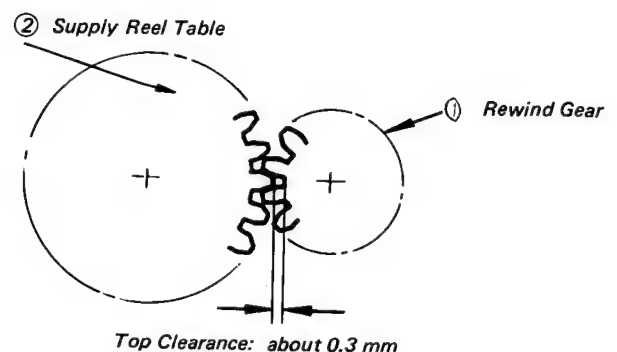

Fig. 5-51 Rewind Gear Engagement Adjustment
### 14-1. Checking (Fig. 5-51)
5. Check to insure that the top clearance of the gears is 0.3 mm (see Fig. 5-51).
#### 14-2. Adjusting the Rewind Gear Engagement (Fig. 5-51, 5-52).
2. Loosen the two screws ④ holding the rewind solenoid ③.
3. Slide the rewind solenoid ③ in the direction A (←).
4. Set the VCR in the rewinding mode of operation to energize the rewind solenoid ③.
5. Move the rewind solenoid ③ by pressing a bladed screwdriver to the rectangular hole on the reel chassis until the gear top clearance is 0.3 mm (see Fig. 5-51).
6. Tighten the screws ④.
7. If the rewind solenoid ③ is defective in the plunger attention, then replace the rewind solenoid ③ by following Item 14-3 below.